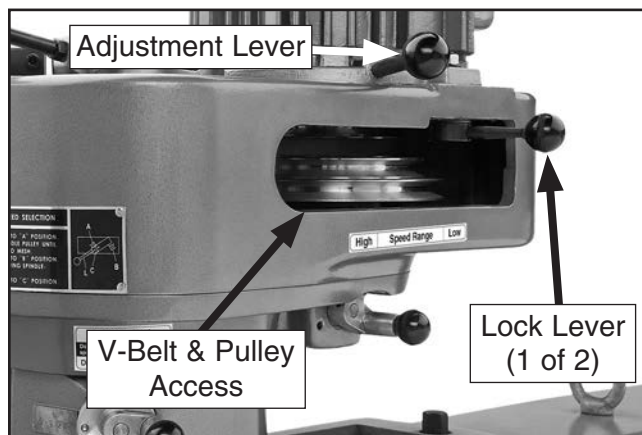

Figure 29. Model G0747 V-belt and pulleys exposed.
5. Remove the belt housing side covers on either side of the head to expose the V-belt and pulleys, as shown in **Figure 29**.